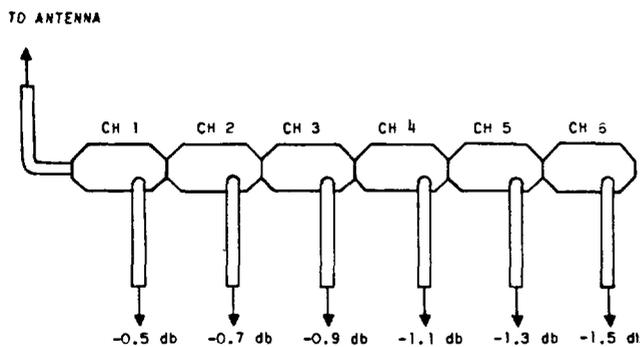

Fig. 8 — Branching Filter Loss versus Channel Number
(1) Measure the maximum received signal power for antenna orientation as outlined in 410-100-510. Record this value as RL1.
(2) Calculate the *theoretical value* of received power for the path being measured as in succeeding steps.
(3) From Table A, find the received power from waveguide to waveguide for a frequency of 3950 mc.
(4) From Table B, column 2, find the correction for two KS-15676 antennas for the frequency of the test signal.
(5) From Table B, column 3, find the attenuation per foot for the circular waveguide. Multiply by the total number of feet of circular waveguide for both transmitting and receiving antenna runs.
(6) From Table B, column 4 or 5, find the attenuation per foot for the rectangular waveguide. Multiply by the total number of feet of rectangular waveguide for both transmitting and receiving runs.
(7) Add the loss for the branching filters included between the transmitting and receiving equipment. See Fig. 8 for representative figures of this loss. It will be noted that each successive channel filter adds 0.2 db loss to the basic channel No. 1 loss of 0.5 db. Should a channel-dropping filter be omitted at a station because that channel is not equipped, the resultant loss becomes 0.2 db less than that shown in Fig. 8 for the particular channel being measured. For example: If channel 4 is being measured, with channels 1 and 2 equipped, and channel 3 not equipped, then the branching filter loss become 0.9 db.
(8) Add the loss of the 11A couplers — about 0.2 db for each coupler.
(9) Obtain the algebraic sum of (2) through (8) and designate as P3, the calculated received power.